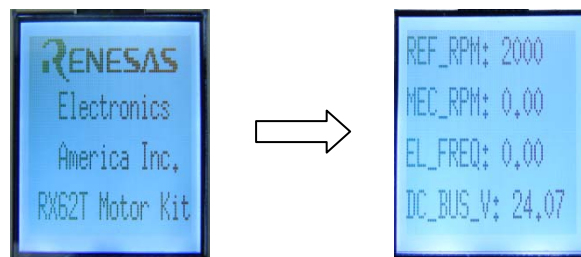

Figure 3 LCD Screen after Step 3
- The LCD will display the logo screen again and after two seconds will switch to the first operating page showing: "REF_RPM", "MEC_RPM", "EL_FREQ" and "DC_BUS_V" as shown in Figure 3.